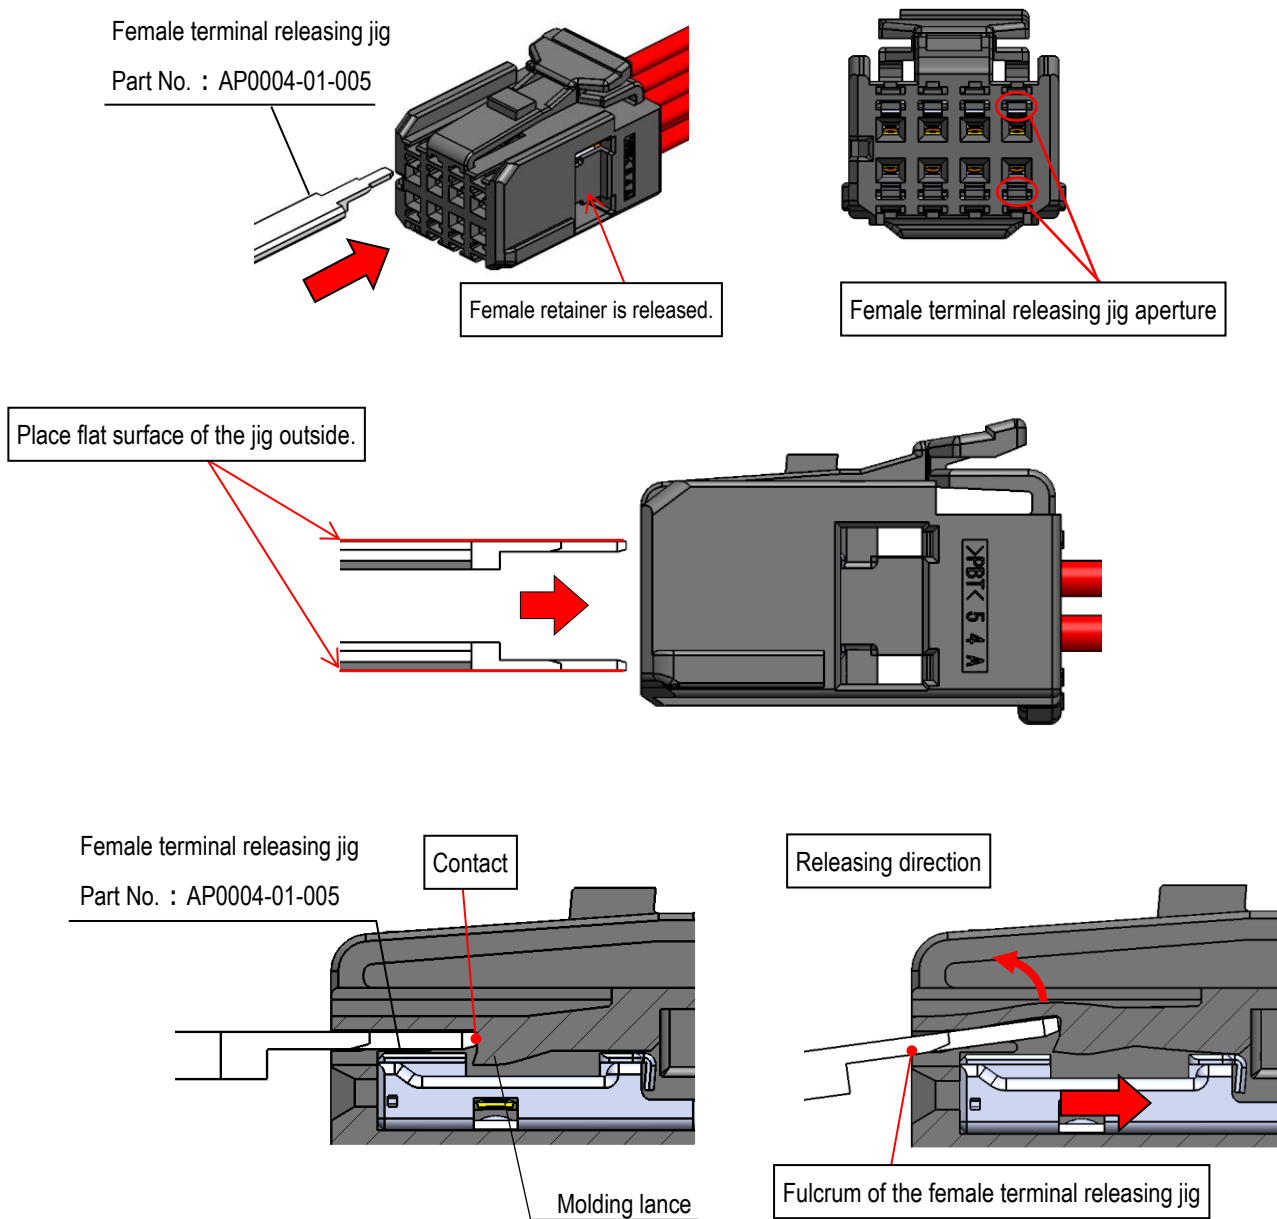

Fig.38 How to release the female terminal
- ⑤ Only use the specified screwdriver for releasing the male retainer.
- ⑥ Do not use screwdriver with damage or deformation.
- ① Ensure that the retainer has been removed.
- ② Hold the wire and push the terminal lightly. Insert the terminal releasing jig into the apertures of the housing (see Fig. 38 and 39).
- ③ Push fully the terminal releasing jig into the molding lance, then lever up the molding lance as shown in Fig. 38.
Keep the terminal releasing jig in that position and pull the terminal out by holding the wire. (see Figs. 38 and 39).